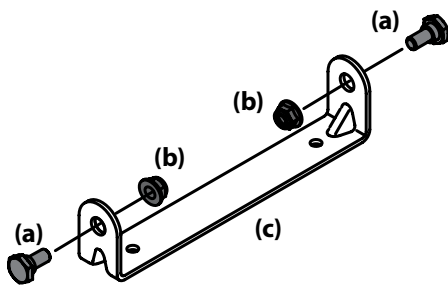

Figure 2-4
- Remove the shoulder bolts (a) and lock nuts (b) from the seat mounting bracket (c) included in your hardware pack. See Figure 2-4.